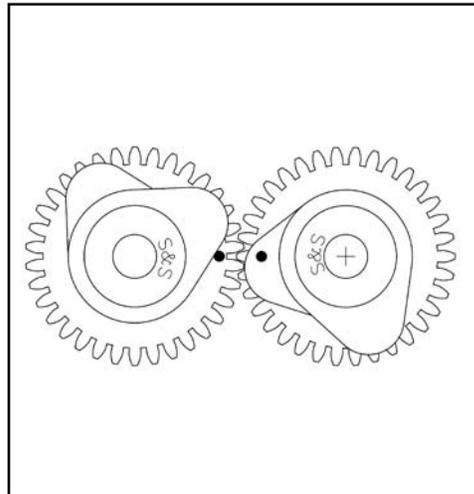

Figure 3
- D. Apply assembly lube to outer bearing surface of rear (longer) camshaft and inner race of rear bearing. Support bearing by inner race and with camshaft gear timing marks aligned (See Figure 3), press camshaft all the way into bearing.